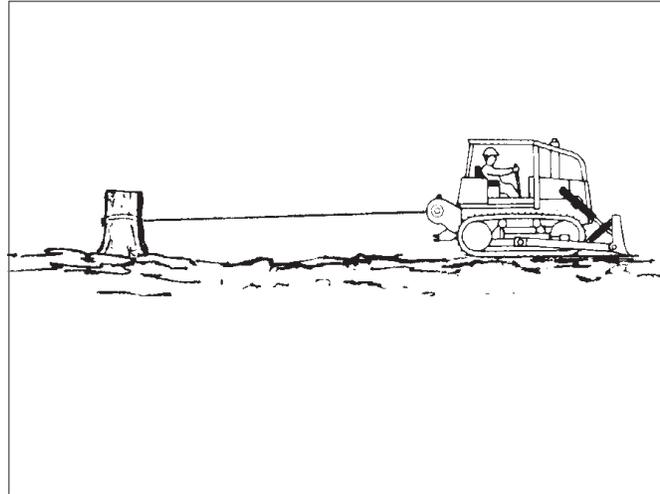

Figure 19 Moving a Disabled Vehicle (Step A)
**A.** A vehicle equipped with a winch can be used to remove itself from mud or other areas where it cannot move using only the drive wheels or tracks. See Figure 19. Use the following procedure: